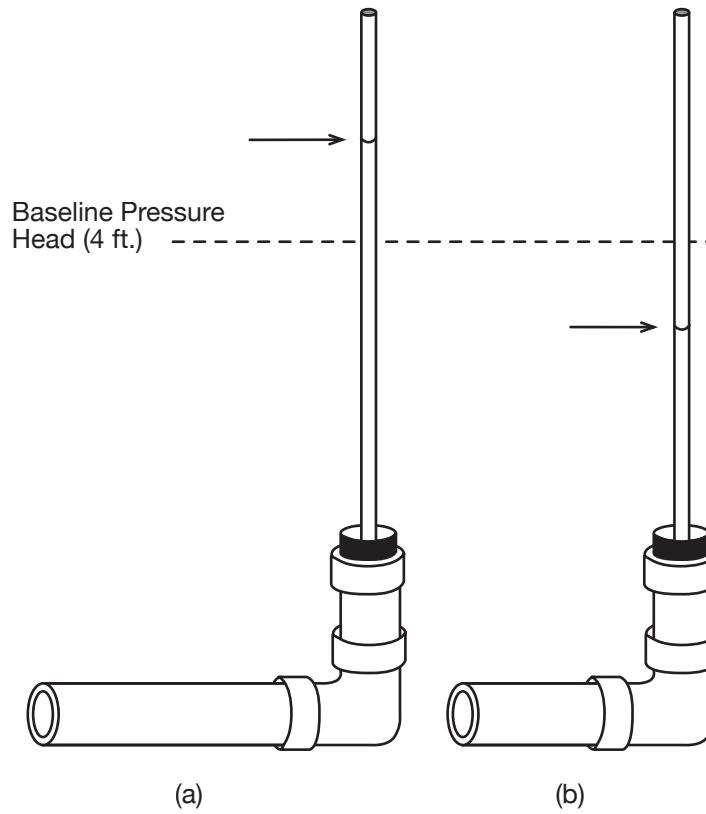

Figure 24. Pressure tests with clogging(a) and leaks(b) in the mound system.
- Pressure too high – clogging (Figure 24(a))
- Pressure too low – leaks, breaks or pump wear (Figure 24(b))